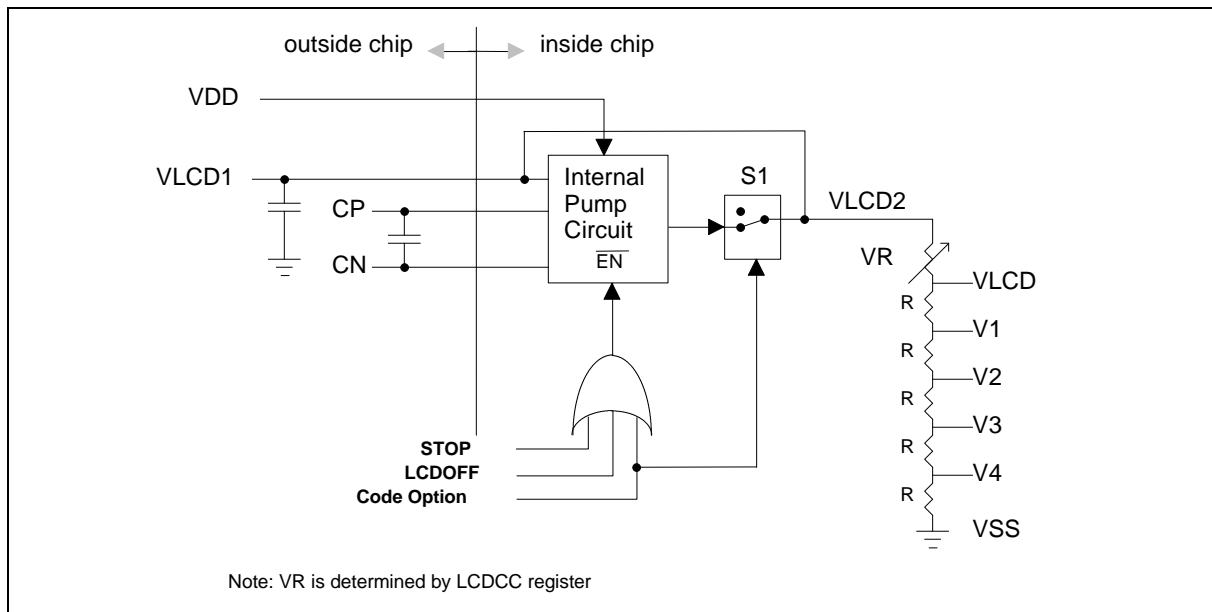

Figure 5-18 LCD power control circuit
LCD power (VLCD2) has two source, one is directly from the VLCD1 pin, another is from internal pump circuit. The LCD power source is selected by mask option. The pump circuit doubles the μC input voltage (VDD), **the power consumption in internal pump mode is more than directly input from VLCD1**. The LCD pump circuit only works in the VDD range from 2.4V to 4.0V. If the operating voltage of VDD is up 4.0V, the LCD power should come from the VLCD1 pin. The LCD contrast is adjustable by an internal variable resistor (VR). VLCD voltage is controlled by setting bit2, bit1 and bit0 of LCD contrast control register (LCDCC). LCDCC is determined by executing `MOV LCDCC, #I`. The Figure 5-18 shows the LDC power control as below: